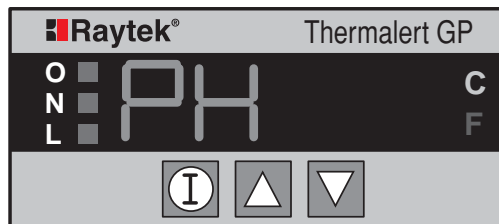

Figure 15: Peak Hold Display
1. Press and hold the  button and press the  button and release them both. The Peak Hold display appears (Figure 15).
1. Press and hold the  button, and press the  button, then release them both. The Peak Hold display appears (as shown in Figure 15).
1. Press the  button and the  button simultaneously then release. The Peak Hold display appears (as shown in Figure 15).